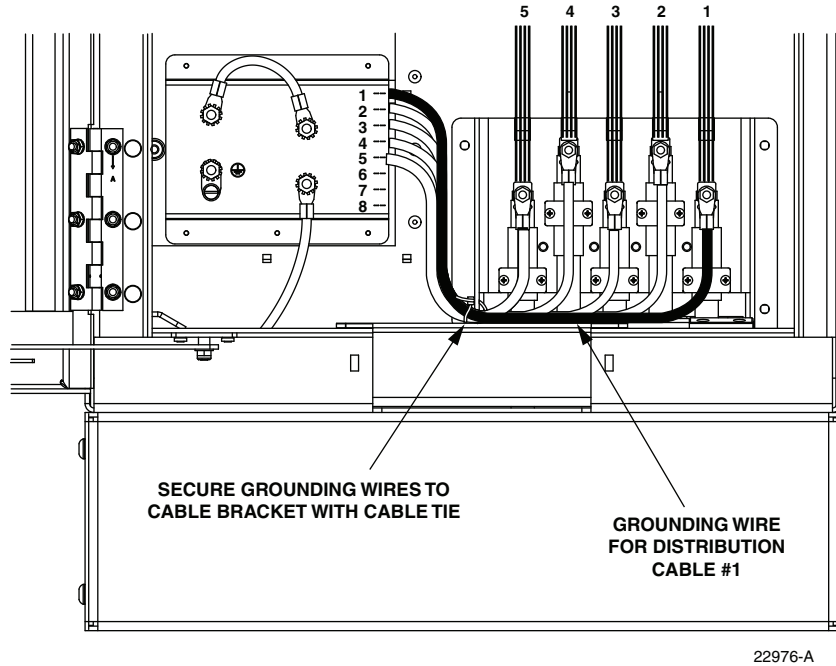

Figure 30. Route Grounding Cable to Grounding System
3. Route the distribution cable jumper wire to the weather-seal strip as shown in Figure 30 and push the free end of the wire through the hole that corresponds to the cable mounting position.